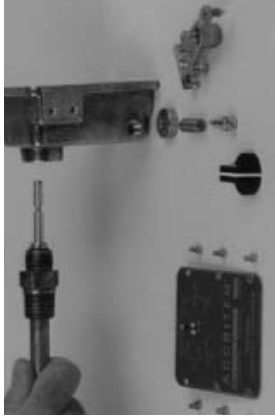

Figure 5.
- To disassemble** (Refer to Parts Drawing and Figure 5):
1. Remove knob (3) after loosening its set screw.
2. Remove cover plate (2).
3. Remove spring retainer screw (8) and lever spring (9).
4. Back out one lever pivot (21) and remove lever (7).
5. Unscrew sensitive tube assembly (20) from body (1).